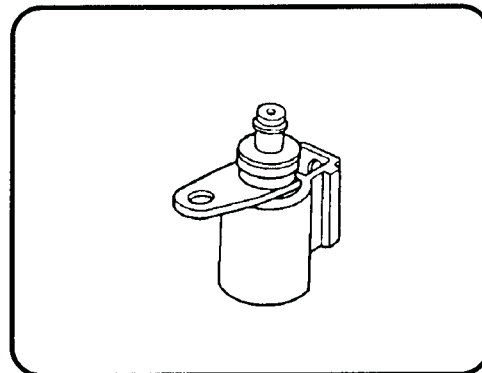

Figure 46
**Pulse-Width Modulated Solenoid** - A PWM solenoid is used to control the apply and release of the torque converter clutch. A duty cycle signal controlled by the EEC-IV processor commands the PWM solenoid to allow an appropriate amount of pressure to flow to the converter clutch control valve. This provides for smoother clutch apply and release. This PWM solenoid is a normally closed solenoid and is referred to as the MODULATED CONVERTER CLUTCH CONTROL SOLENOID (MCCC). Erratic or no converter clutch apply, engine stalling in second gear (OD, D range) at low idle speeds with brake applied may occur if this solenoid malfunctions (see figure 46). Refer to page 53 for PWM check.